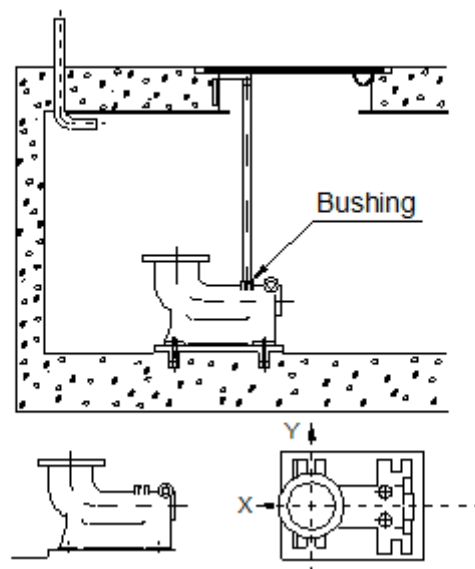

Fig 4
3.3 Discharge Elbow Installation (Fig. 4)
Support the guide pipe with bushings on discharge elbow and the guide pipe holder. If the guide pipe requires a length exceeding 5.5m (18ft), an extension or intermediate support may become necessary, in which case we are available for consultation. When installing the discharge elbow, the guide pipe must be vertical (with a tolerance of 1mm (0.04in) or less per 1m (3.3ft)), using a plum bob. If it is not vertical, it may become impossible to lift pump. Discharge elbow level should be within 0.1mm (0.04in) per 1m (3.3ft), both in the “X” and “Y” directions shown in Fig. 4. It is recommended practice that pipe installation be carried out with the discharge elbow covered to protect against entry of concrete and mortar during the work.